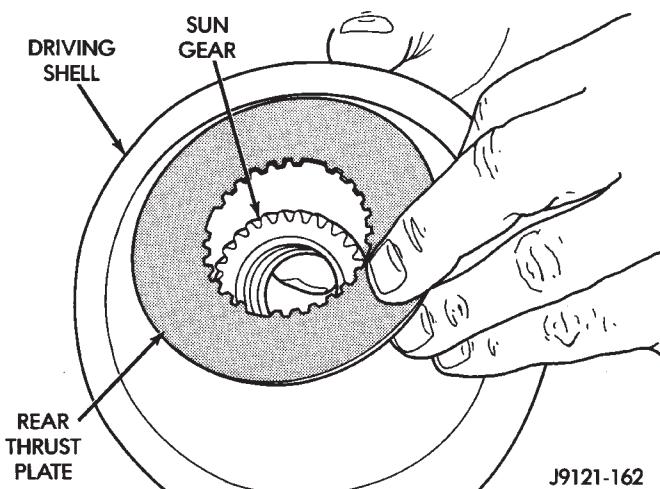

Fig. 85 Installing Driving Shell Rear Thrust Plate
(9) Hold sun gear in place and install thrust plate over sun gear at rear of driving shell (Fig. 85).